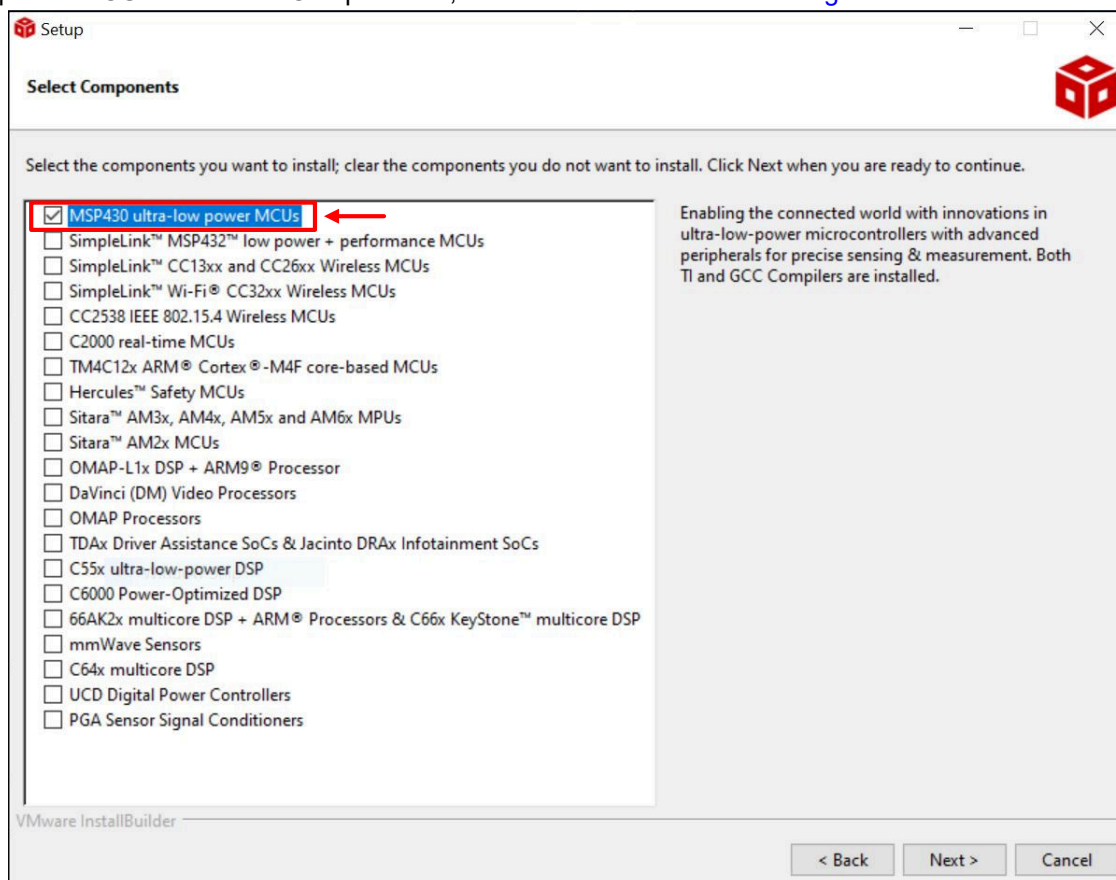

Figure 2-1. Installation Process of Code Composer Studio
- b. Follow the installation instructions to install Code Composer Studio. During the installation process, if you choose the "Setup type" to be "Custom Installation", make sure that you select "MSP430 ultra-low power MCUs" in "Select Components", as is marked with red box in Figure 2-1.